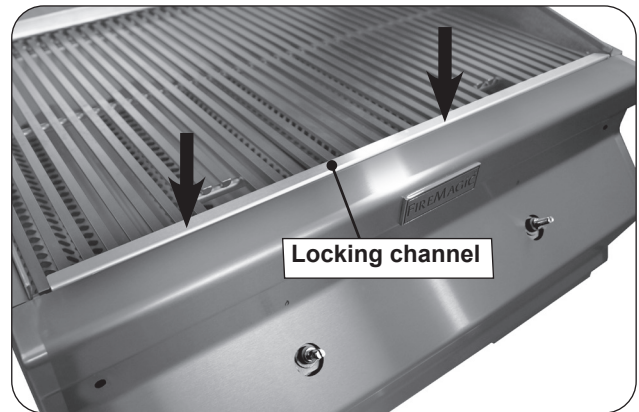

Fig. 30-2 Install cooking grid with locking channel
2. With the channel attached to the control panel, carefully reinstall the control panel back onto the grill. Ensure the locking channel is laying flat on the cooking grids. See Fig. 30-2.